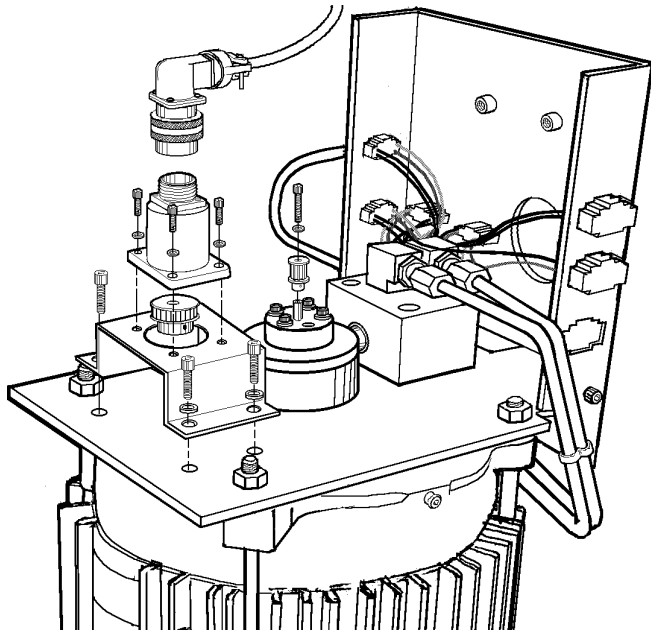

Fig. 6-2 VF-0 encoder installation.
7. For the VF-0, place the **mounting bracket** in place (Fig. 6-2). Fasten to the top plate with the four 1/4-20 x 1" screws and four lock washers.